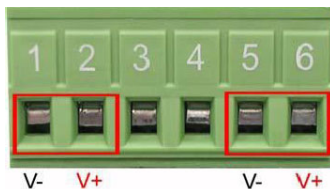

Figure 3
1. Insert the positive and negative wires into V- and V+, see Figure 3.